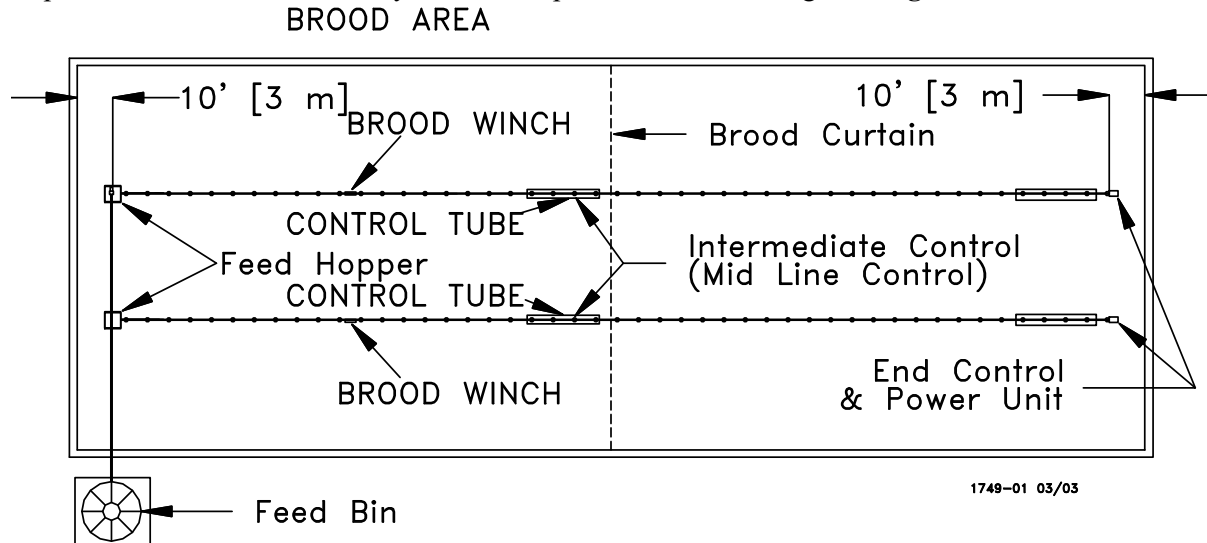

Figure 1. Component location diagram for systems up to 400 feet [122 m]. (Top View).
A. Optional Mid Line Controls may be used for partial house brooding. See **Figure 1.**